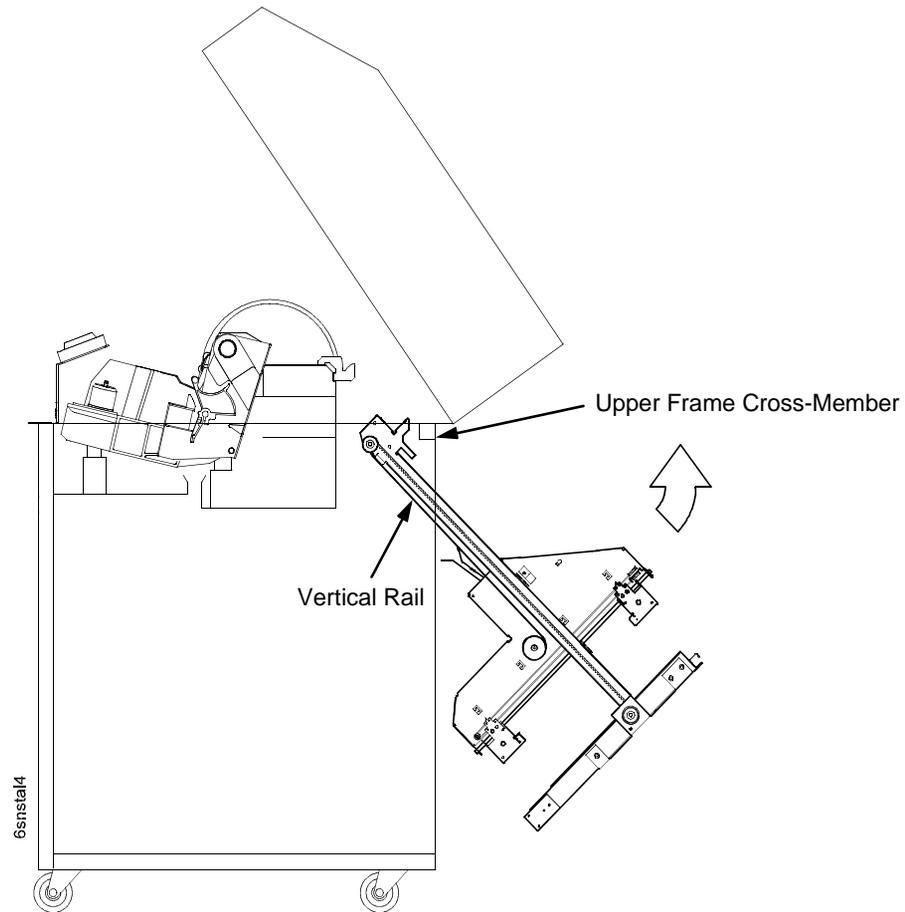

Figure 84. This figure shows how to remove the stacker assembly from the rear of the printer cabinet.
15. Slide the entire stacker assembly slightly to the right to clear the air exhaust duct. Tilt the vertical rails toward the front of the printer until they clear the upper frame cross-member. Slide the stacker assembly to the rear and angle it out of the cabinet, as shown in Figure 84.